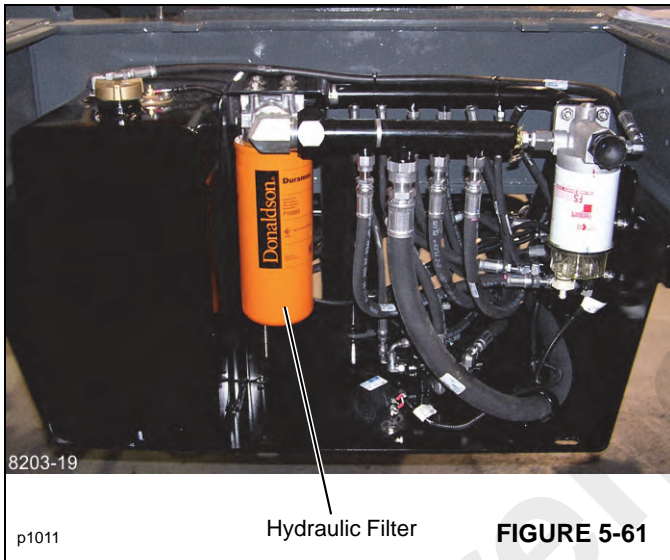

FIGURE 5-61
2. Remove the side panel to expose the hydraulic compartment and the hydraulic filter (Figure 5-61).